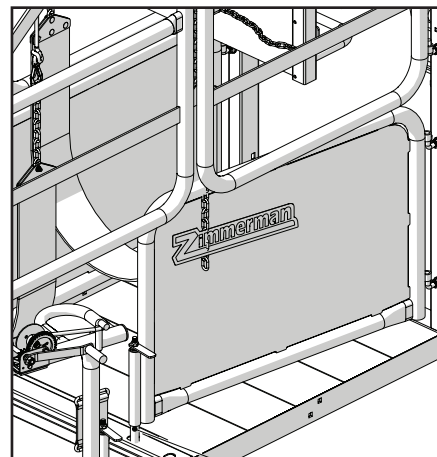

Figure 7: Rear lower gate (trimming position)
1. Before trimming the front hoof, move the bottom rear gates on each side of the chute to the trimming position (the inside latch slot) to prevent the operator from being kicked as shown (Figure 7).